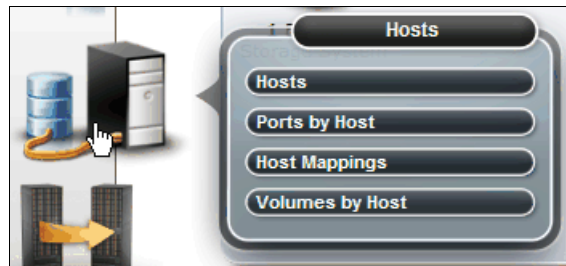

Figure 9-12 Hosts menu
1. Hover your cursor over the host type icon. The system displays the Hosts menu (Figure 9-12).